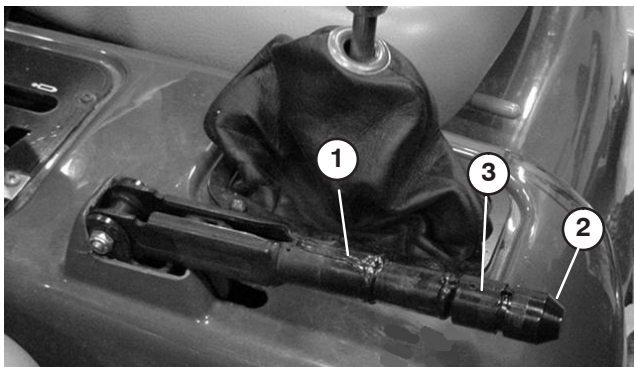

Figure 49
2. Loosen set screw securing knob to parking brake lever (Fig. 49).